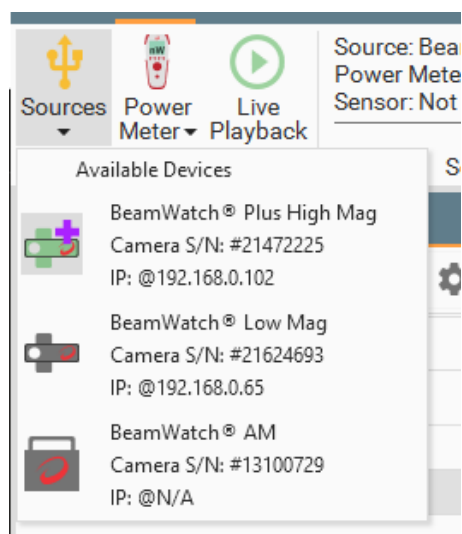

Figure 2: Sources Selection Dropdown
2. If needed, select the desired device from the **Sources** dropdown (Figure 2).